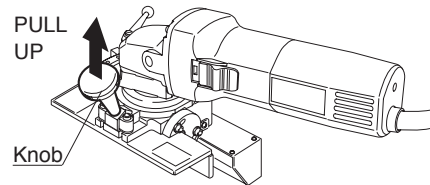

Fig.15
- (1) Lay down the Knob with it pulled up. (Fig.15, 16)